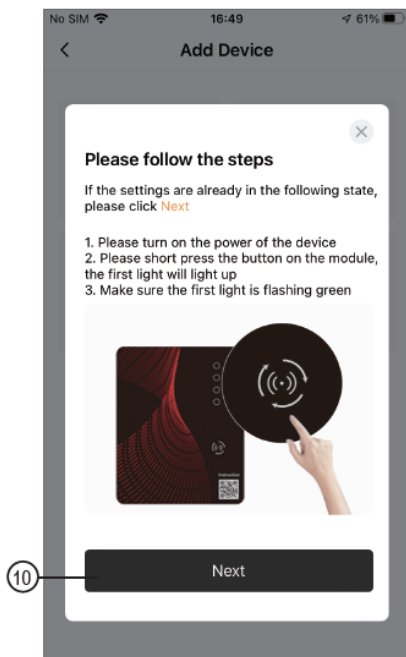

Fig.6 WIFI Module On interface
1. Follow the instructions on the page (Fig.6), press the button on the module, and hold for 1 second until two lights are on, the AP connection is activated, click 10 to turn the page;